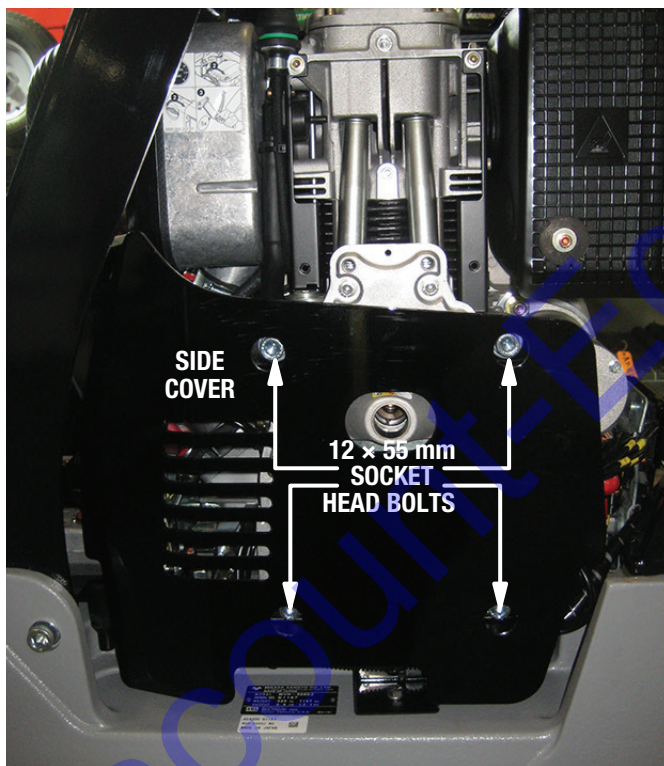

Figure 32. Side Cover Installation
18. Secure the side cover to the compactor with the four 12 × 55 mm socket head bolts that were removed earlier (Figure 32). Torque the bolts to 54.2 ft-lb (73.5 N·m).